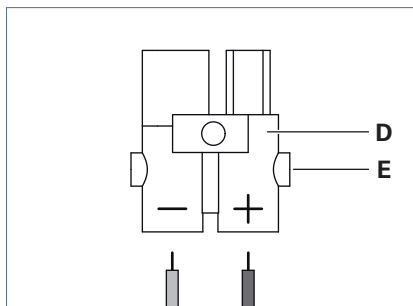

Fig. 4: Pin assignment.
- Unscrew both screws **E** of the plug **D**, see Fig. 4.